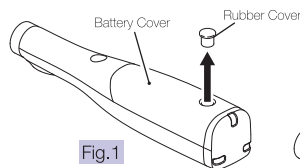

Fig.1
- 1) Remove the rubber cover from the battery cover with a thin flatblade screwdriver. (Fig. 1)